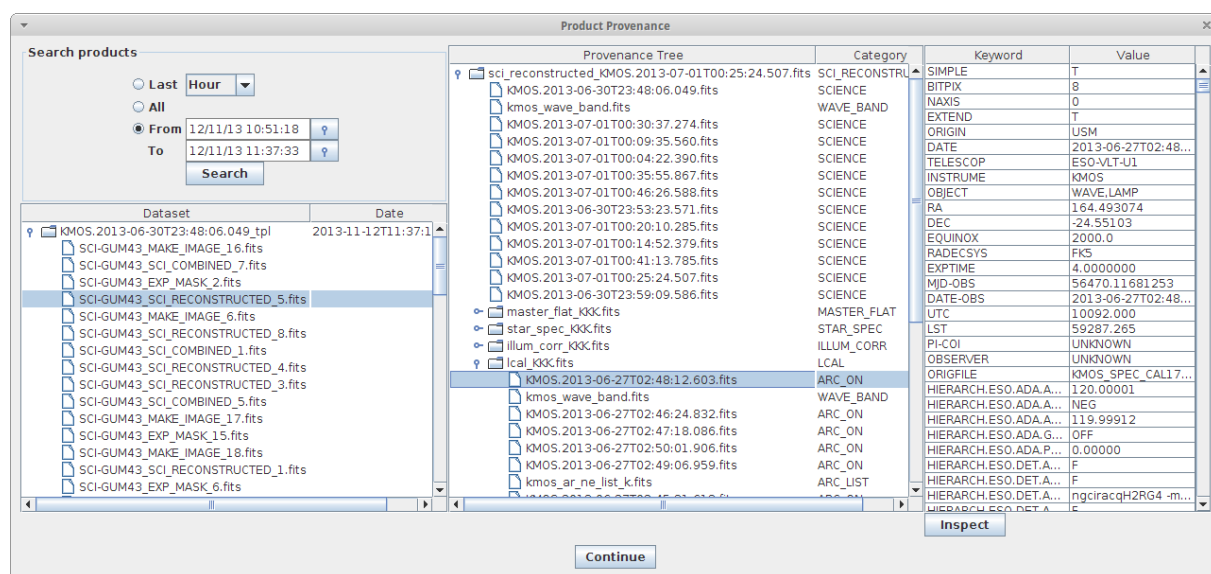

Figure 4.4: The KMOS provenance explorer.
9. When the reduction of the current DataSet finishes, a pop-up window called *Provenance Explorer* will appear showing the datasets which have been so far reduced together with the list of final products. This actor allows the user to inspect the final data products, as well as to search and inspect the input data used to create any of the products of the workflow. Figure 4.4 shows the *Provenance Explorer* window.